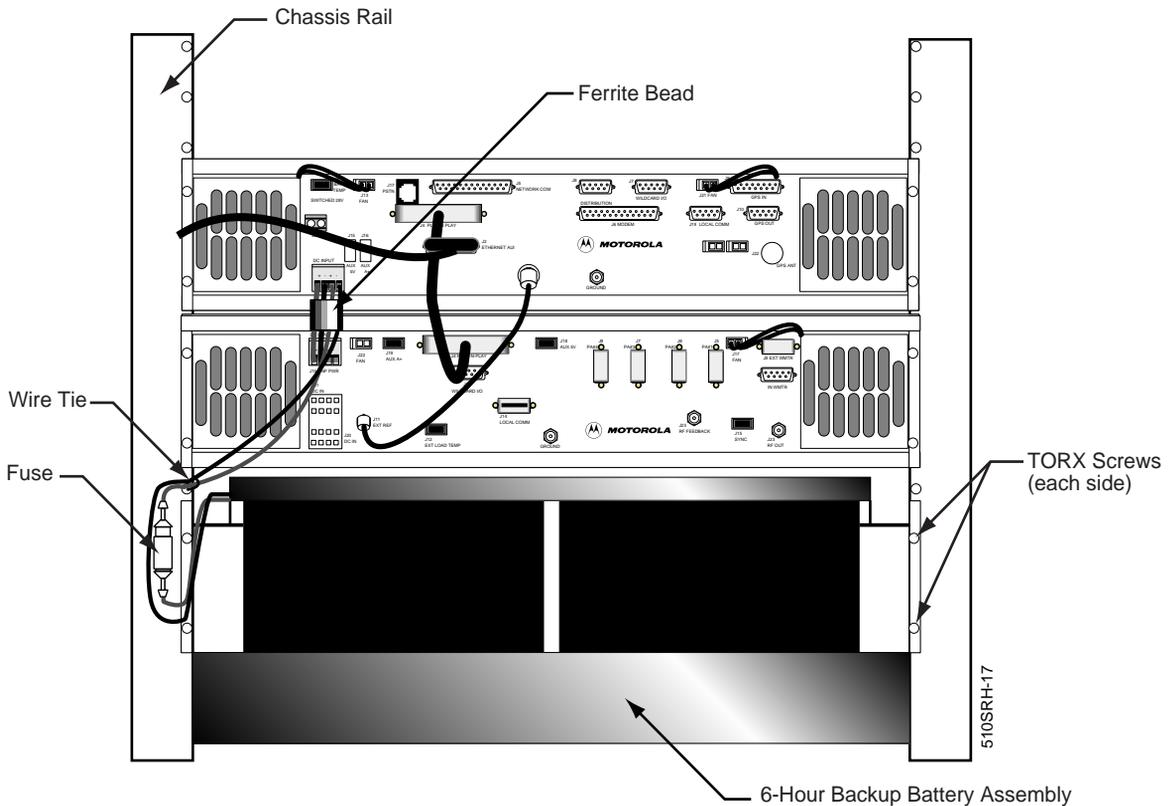

Figure 6-9: 6-Hour Battery Assembly (Installed)
- Remove the wire tie that secures the wires to the chassis (see Figure 6-9).
8. While supporting the battery assembly, remove and save the four #30 TORX screws and remove the battery assembly (see Figure 6-9).
2. Align the bracket holes on the battery assembly with the chassis holes and install the four screws removed in paragraph, "6-Hour Battery Removal", Step 8 (see Figure 6-9).
5. Anchor the wires to the chassis rail using a wire tie (see Figure 6-9).